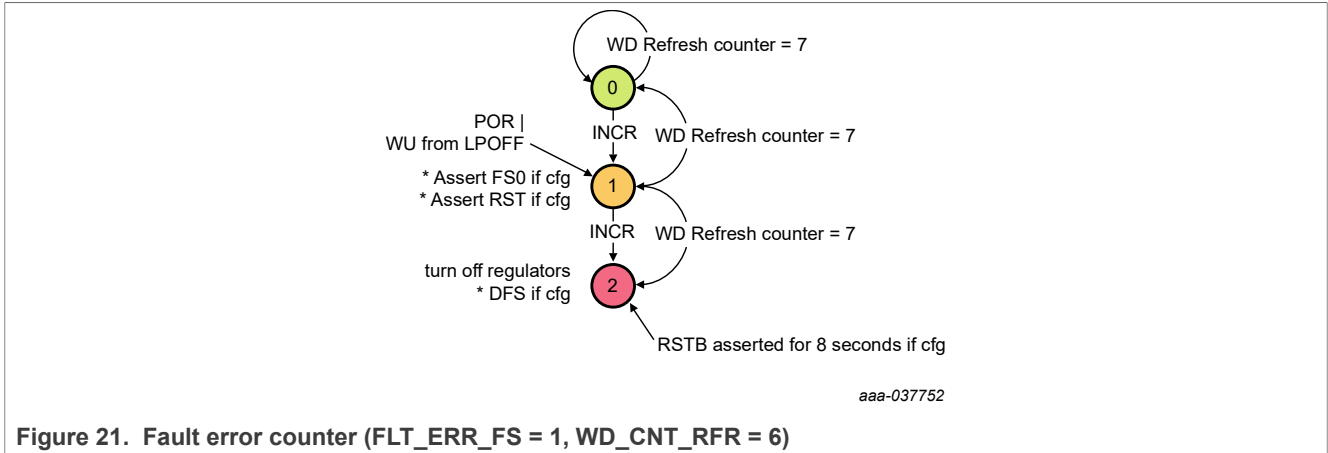

Figure 21. Fault error counter (FLT_ERR_FS = 1, WD_CNT_RFR = 6)
- FLT_ERR_FS = 1/Intermediate = 1; Final = 2 (Figure 21).